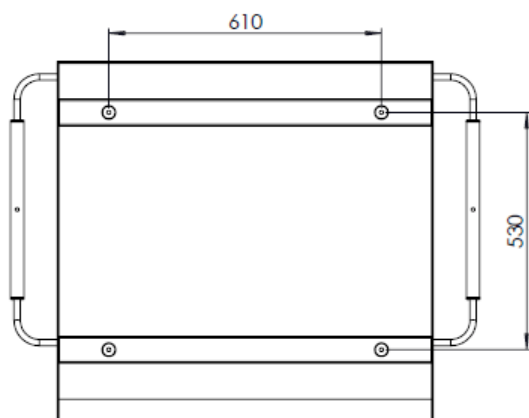

Fig. 2 – seen from below
3. Make 4 holes 20 cm deep as indicated in Fig. 2, corresponding to the position of the rods.